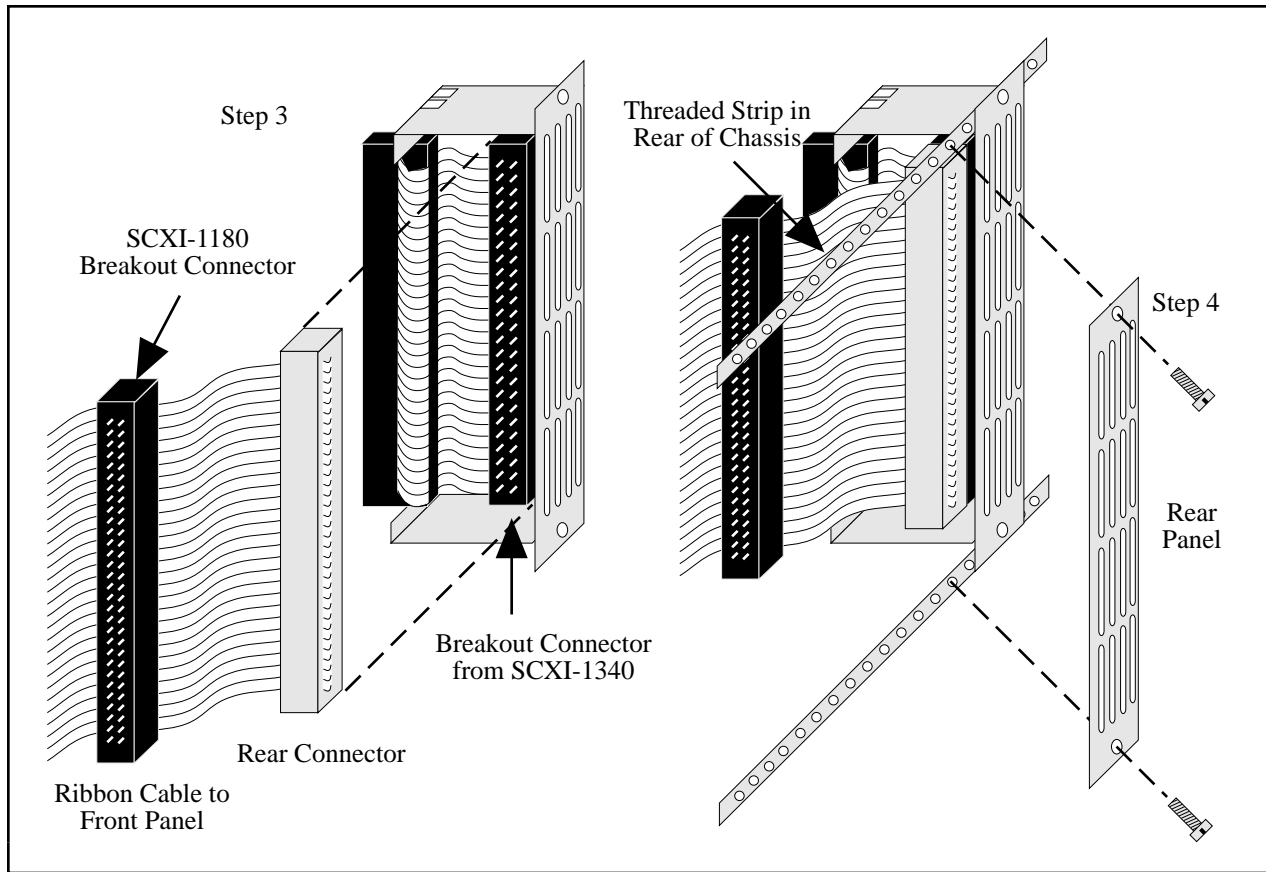

Figure E-3. SCXI-1180 Rear Connections
3. Thread the rear connector through the front of the chassis to the rear of the chassis. Attach the rear connector to the breakout connector of the adjacent cable assembly or slot extender, as shown in Figure E-3.
3. Connect the rear connector of the cable extender to the breakout connector in the adjacent slot. This attachment is similar to step 3 in the *SCXI-1180 Installation* section, as shown in Figure E-3.